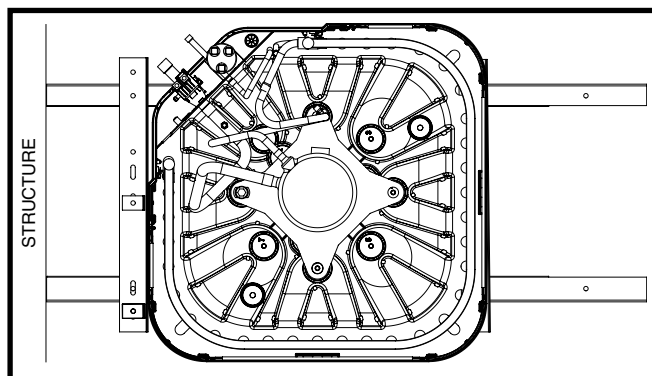

Figure 6. Small Footprint - Control Panel Left
- See Figure 6 for small footprint units with control panel on the left.